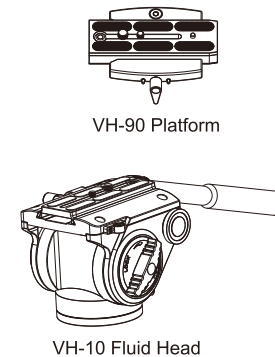

Figure 11
6. The SIRUI VH-90 Platform and VH-10 Fluid Head are available separately (Figure 11)